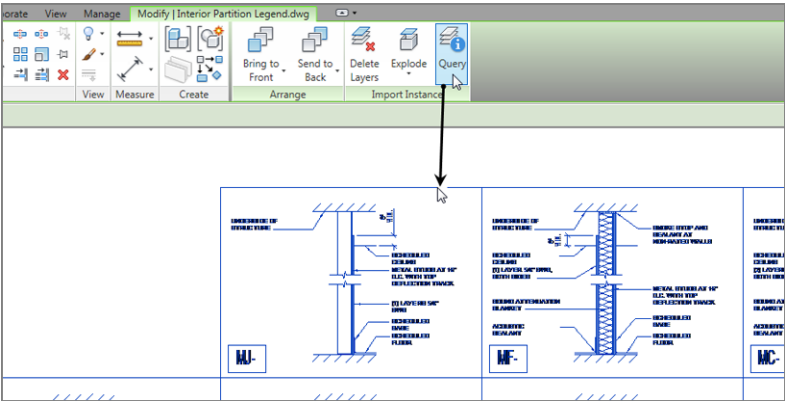

FIGURE 11.56: Clicking the Query button in the Import Instance panel
- 3. On the **Modify | Interior Partition Legend.dwg** tab, in the **Import Instance** panel, click the **Query** button, as shown in Figure 11.56.
- 4. Select the line shown in Figure 11.56.